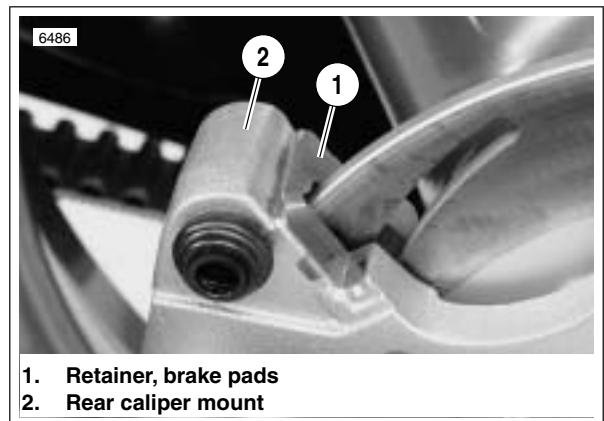

Figure 2-62. Retainer, Brake Pads
See Figure 2-62. Always make sure brake pad retainer is in place on caliper mount before installing pads and caliper.
1. See Figure 2-62. Install brake pad retainer (1) if removed.